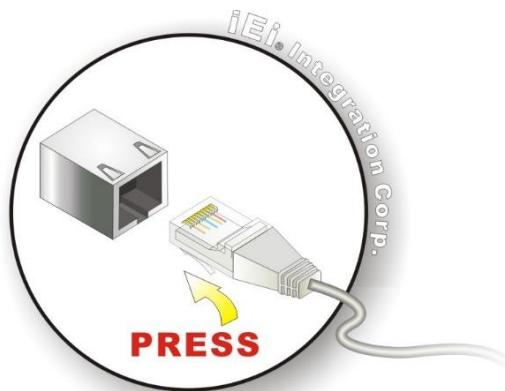

Figure 3-13: LAN Connection
Step 2: Align the connectors. Align the RJ-45 connector on the LAN cable with one of the RJ-45 connectors on the DRPC-240-TGL **See Figure 3-13**.